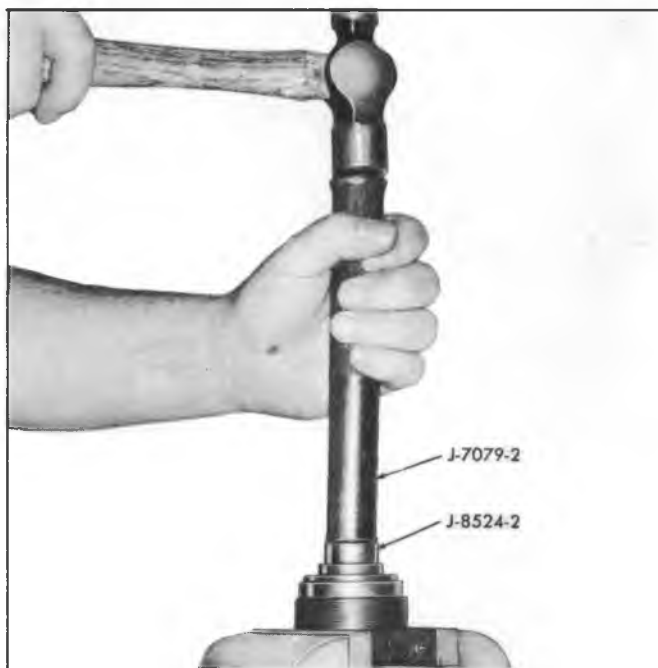

Fig. 39—Removing Bearing and Seal
3. If the needle bearing is to be replaced, remove the retaining ring using Internal Pliers J-4245. Remove thrust bearing as outlined in Step 2 above. Drive needle bearing, dust seal and oil seal from adjuster plug using Bearing Remover J-8524-2 and Driver J-7079-2 as shown in Figure 39. Discard the oil seal.